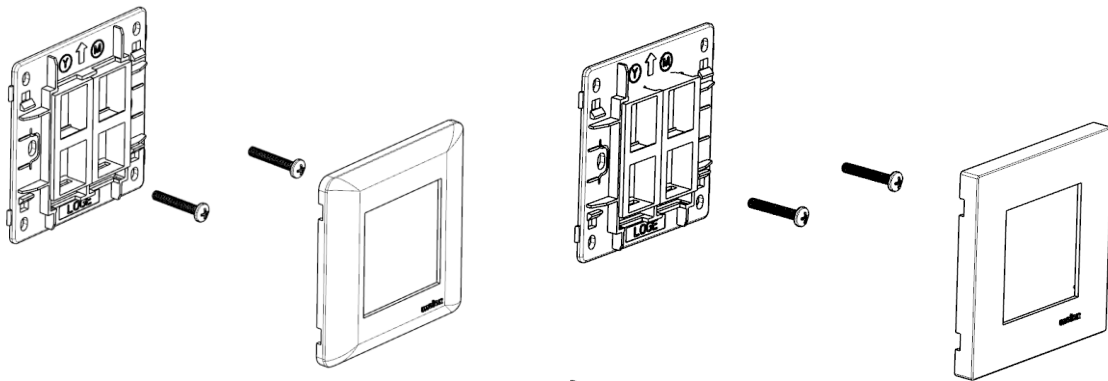

FIG.4
2.3 REMOVAL INSTRUCTIONS (FIG.4):